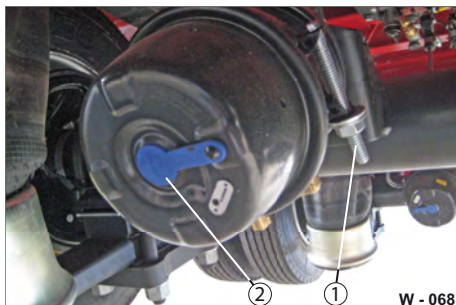

Fig. 53 Spring-loaded diaphragm cylinder
When the trailer is ready to be driven, the release bolt (Fig. 53/1) must be fixed in place in a location provided for the purpose.
The end cap (Fig. 53/2) covers the hole in the cover of the spring-loaded diaphragm cylinder.
- ▶ Fix the release bolt to the diaphragm cylinder in the location provided (see Fig. 53).
- ▶ Close the hole with the end cap (see Fig. 53/2).